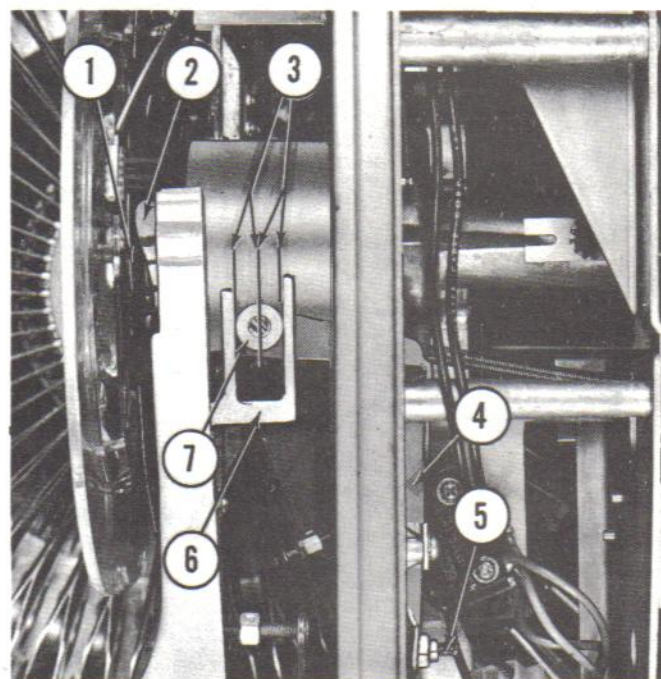

Fig. 68. TONE ARM LATCH LEVER ADJUSTMENT
(2) The tone arm release bracket (Fig. 68, Item 4) should be adjusted with a perfectly flat record clamped in playing position on the turntable and the power turned "off." The adjusting screw (Item 5) should be set to center the feed-in adjusting screw (Item 7) within the U shaped latch bracket as shown at Item 3.